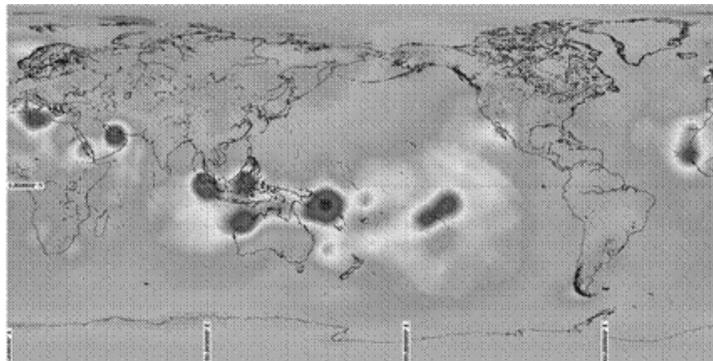

Fig 3: Global incidence of ducting
Fig 3 is an International Telecommunications map of the global incidence of ducting. Surprisingly the current world record across Southern Australia is not in an area of high incidence nor is the Hawaii to
Atmospheric absorption at 24 GHz is primarily related to water vapor, which is in turn directly related to "Absolute Humidity". A common misunderstanding is to use "Relative Humidity" as an indicator of absorption rather than "Absolute Humidity". As shown in Fig 3 the simple use of "Relative Humidity (RH)" without referring to temperature can lead one to think that it is better to operate at 20% RH and 30 degree C whereas in fact the loss would be 20 dB less by operating at 80% RH and 0 degrees C .